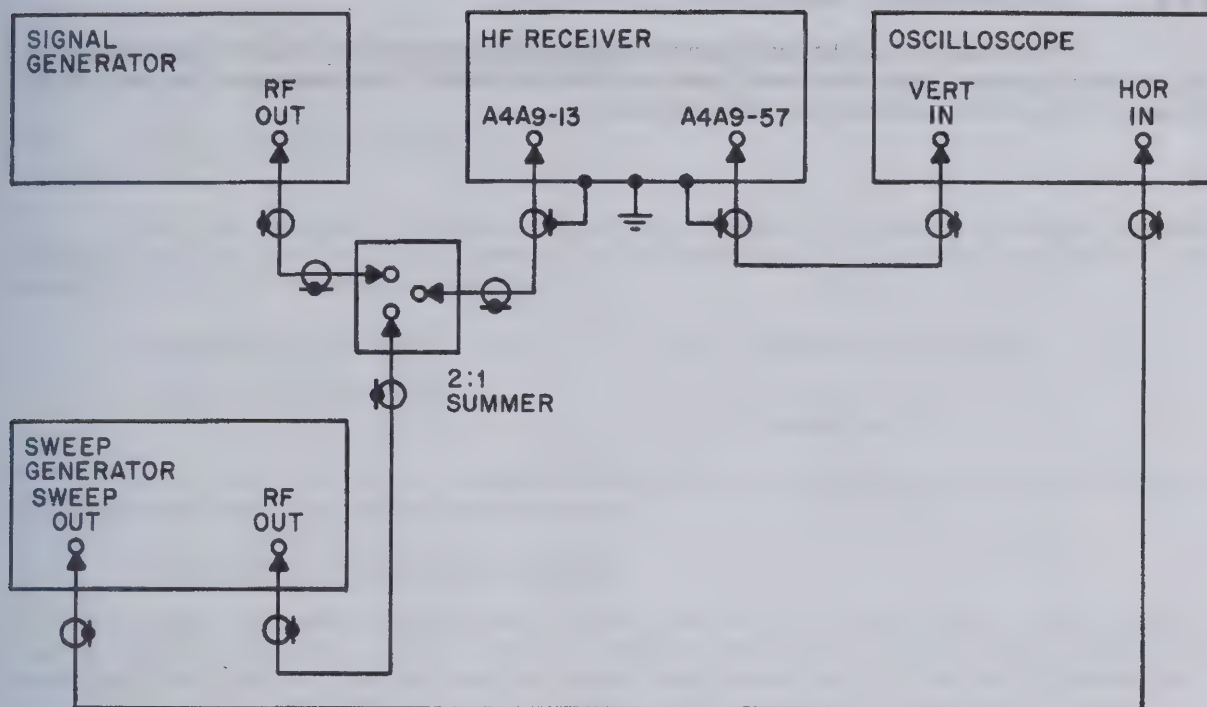

Figure 4-25. FM Discriminator Alignment, Test Setup
4. Connect the test equipment as shown in Figure 4-25.